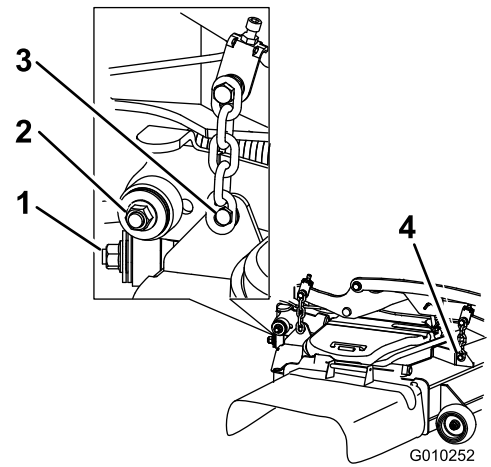

Figure 121
7. Remove and retain the hardware on both sides of the deck as shown in Figure 121.